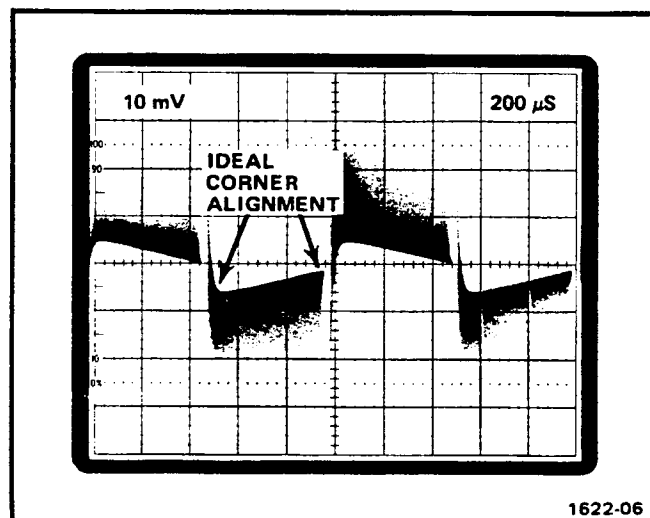

Fig. 2-2. Display of complex waveform (idealized) with 0.5 volt reference amplitude of 0.05 MHz, properly set.
h. Check—that the waveform is similar as illustrated in Fig. 2-2, (within 1.5 vertical divisions).